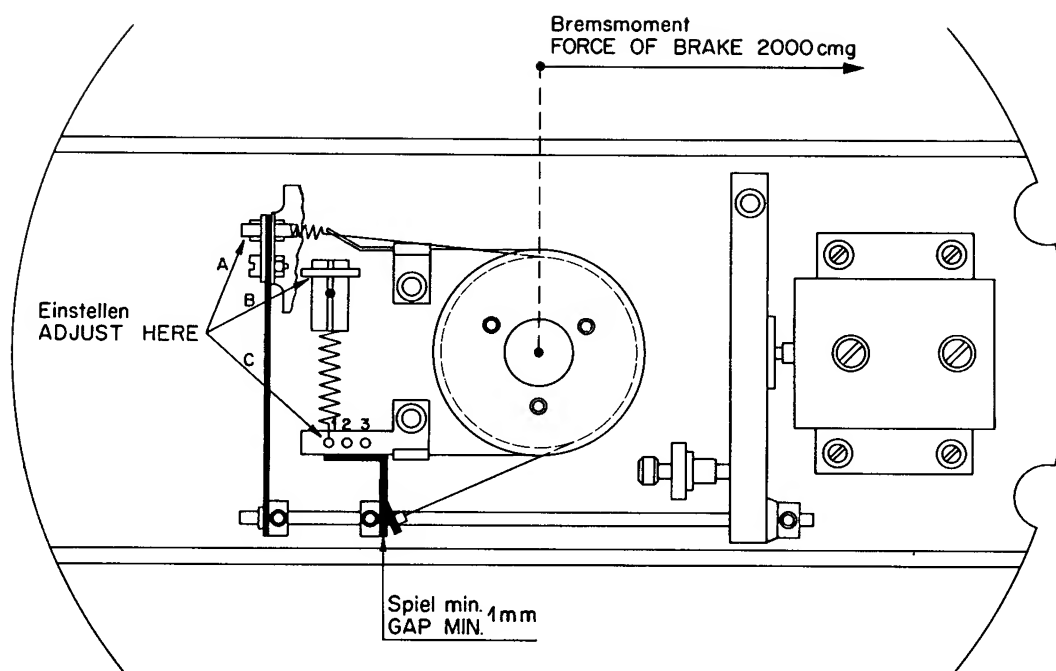

Fig. 7
1. Remove turntable and underlying dust cover. You will see now the brake facilities as shown in fig. 7.
5. Coarse adjustment can be made by connecting the spiral spring to one of the three holes as shown in fig. 7. For fine-adjustment the knurled nut B (fig. 7) needs to be turned.
7. Brake tension in correct, when a reading of 1,5 ounces (45 gr) is obtained. The corresponding torque is $5 \text{ cm} \times 45 \text{ gr} = 225 \text{ cmg}$. Adjust with alignment screw A in fig. 7.
8. Repeat both adjustments alternately, until optimum results are achieved. The ratio 1 : 8 of both braking torques is accessible by means of a servocord which is fastend at the black indicated lever (in fig. 7).